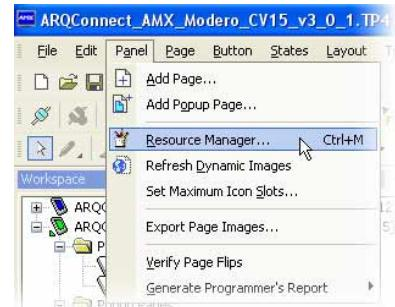

Figure 3
- a. From the "Panel" menu, select "Resource Manager" (**Figure 3**).